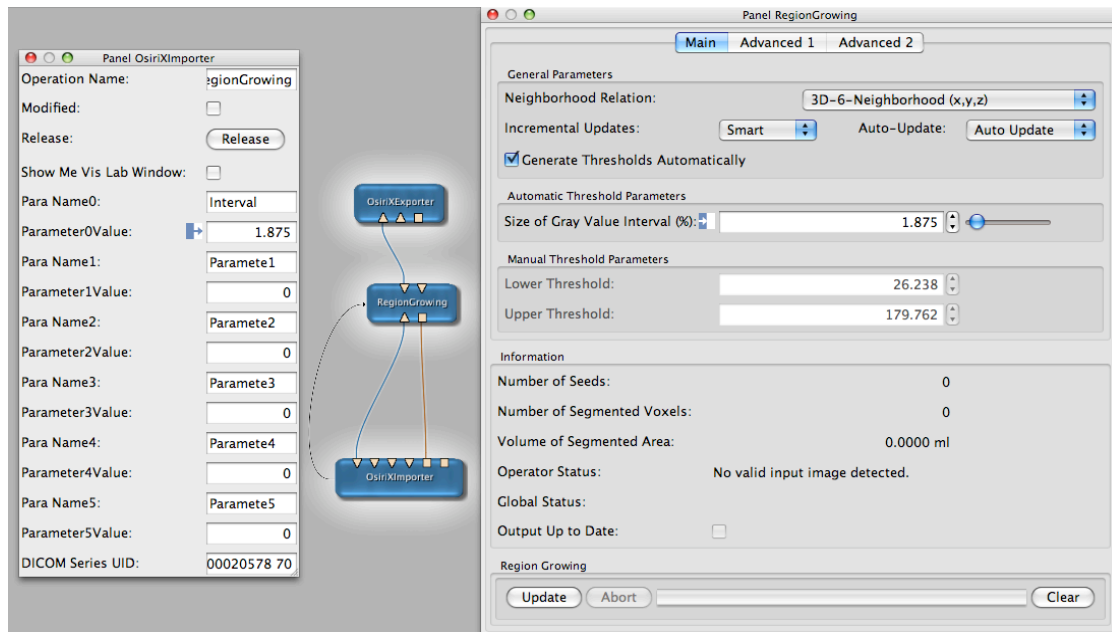

Figure 6. Network in MeVisLab
- Create processing network in MeVisLab as shown in figure 6